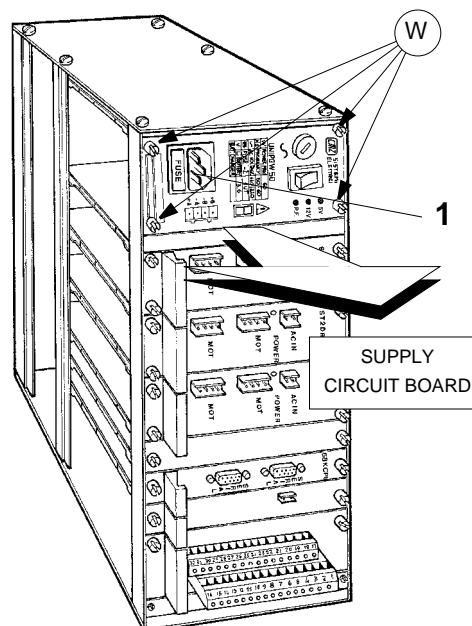

Fig. 34
- 4) disconnect the plug 1 (fig. 34) and loosen the four screws (W) securing the module (it is not necessary to remove them).
- 6) secure with the four screws (W) and replace the plug 1.